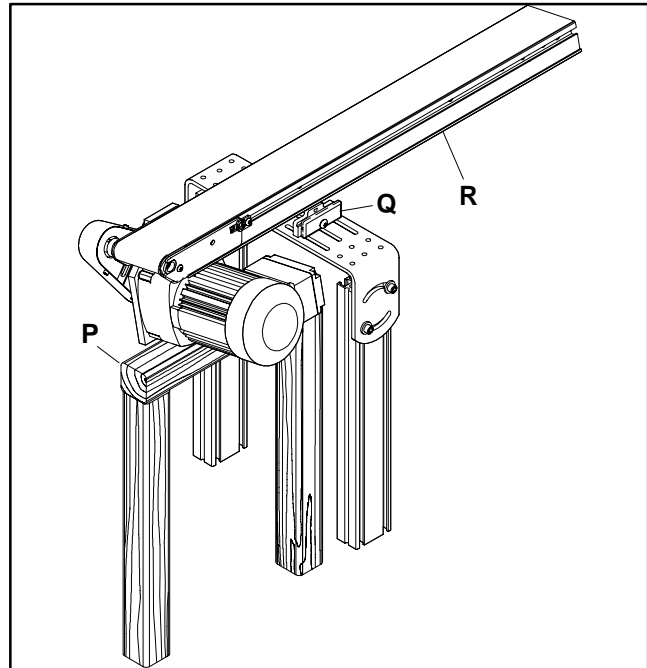

Figure 20
<p>To prevent injury, make sure all electrical power sources have been disconnected and locked-out before you perform any maintenance, make any adjustments or replace any components.</p> <p>In addition, the weight of the gearmotor is all on one end of the conveyor. This could cause the conveyor to tip off the stands when the mounting clamps are removed. Be sure to provide some form of support (P of Figure 20) underneath the gearmotor while the belt is being changed.</p>
2. To facilitate re-assembly, mark critical locations on conveyor frame and remove guiding, controls, stops and other attached accessories which would interfere with belt removal on the side opposite (R of Figure 20) the drive assembly.
- Loosen the mounting clamp plate screws (Q of Figure 20) on the side of the conveyor opposite the drive assembly. The screws only need to be loosened far enough to allow the conveyor to clear the mounting clamp plates.
2. Install the new belt by sliding it sideways onto the conveyor frame assembly onto the side opposite the drive assembly (R of Figure 20). Push the conveyor back down onto the mounting clamp blocks being careful not to pinch the conveyor belt. Fully tighten the clamp plate screws to secure the mounting clamp plate (Q of Figure 20) to the clamp block.